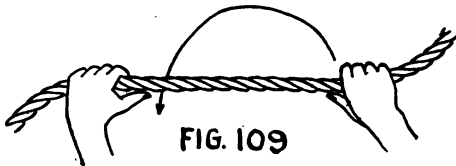
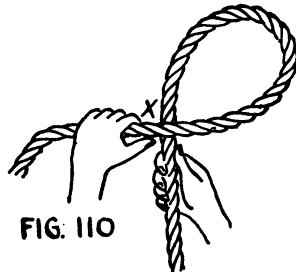
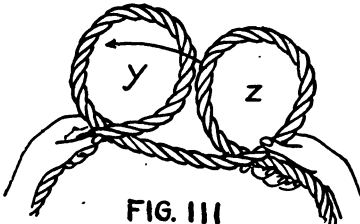

FIG. 109
FIG. 110
FIG. 111
1. *Clove Hitch—Beginner's Method.* To make the hitch by this method the rope is held in both hands as shown in fig. 109. The right hand is then made to describe a curve, as illustrated by the arrow, (fig. 109) passing under the rope at *x* fig. 110. Hold the half hitch in the left hand as shown in fig. 111 and throw the second loop in the same manner as the first (fig. 111). Slide the loop last formed *z* over the first *y* as indicated by the arrow in fig. 111 and shown in fig. 112.
in fig. 113, forming a loop with the right hand as illustrated in the beginner's method (figs. 109 and 110) and passing the loop over the top of the post. The end of the rope is then held in the left hand, and another loop made with the right hand, (fig. 114) is thrown over the post (fig. 115).